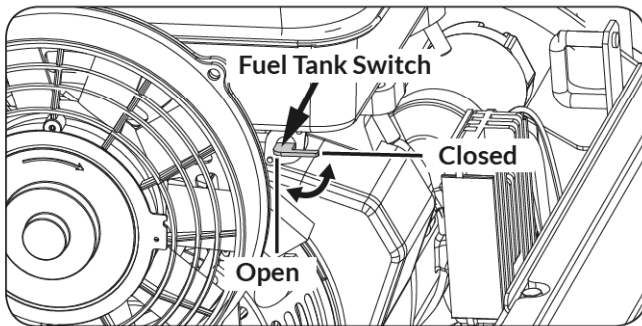

Figure 21
1. Check and ensure that the fuel tank switch is in the OPEN position. (See **Figure 21**)